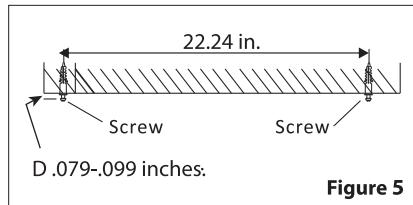

Figure 5
1. Install provided screws directly onto mounting surface. Spacing between screws should be 22.24 inches. Gap (D) should be .079-.099 inches. For concrete/drywall surfaces, wall anchors are required. Drill two holes for provided wall anchors then use provided screws (See Figure 5).